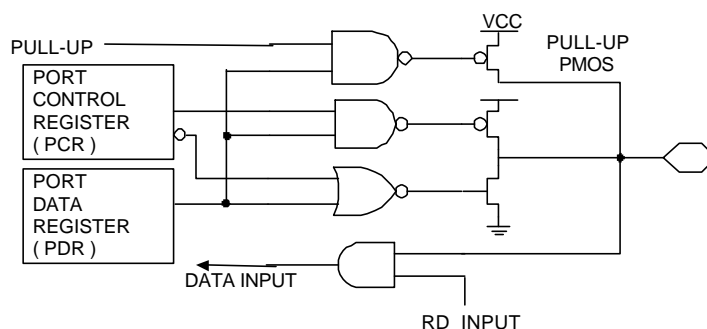

FIGURE 9-2 Port-A Block Diagram
Port-A contains pull-up MOS transistors controlled by software. When an I/O is used as input. The ON/OFF of the pull-up MOS transistor will be controlled by port Data register (PA) and the pull-up MOS will be enabled With “1” for data bit and disable with “0” for data bit. The PULL control bit of PMCR controls the ON/OFF of All the pull-up MOS simultaneously. Please refer to FIGURE 9-2.
When programmer enables INTX and PT interrupts, PA0 trigger occur. INTX and PT interrupts will therefore happen sequentially. Please refer to FIGURE 9-2.